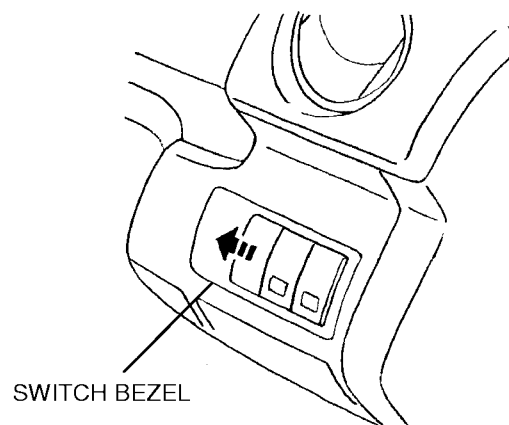

FIGURE 9
4. Remove the switch bezel (refer to Figure 9)